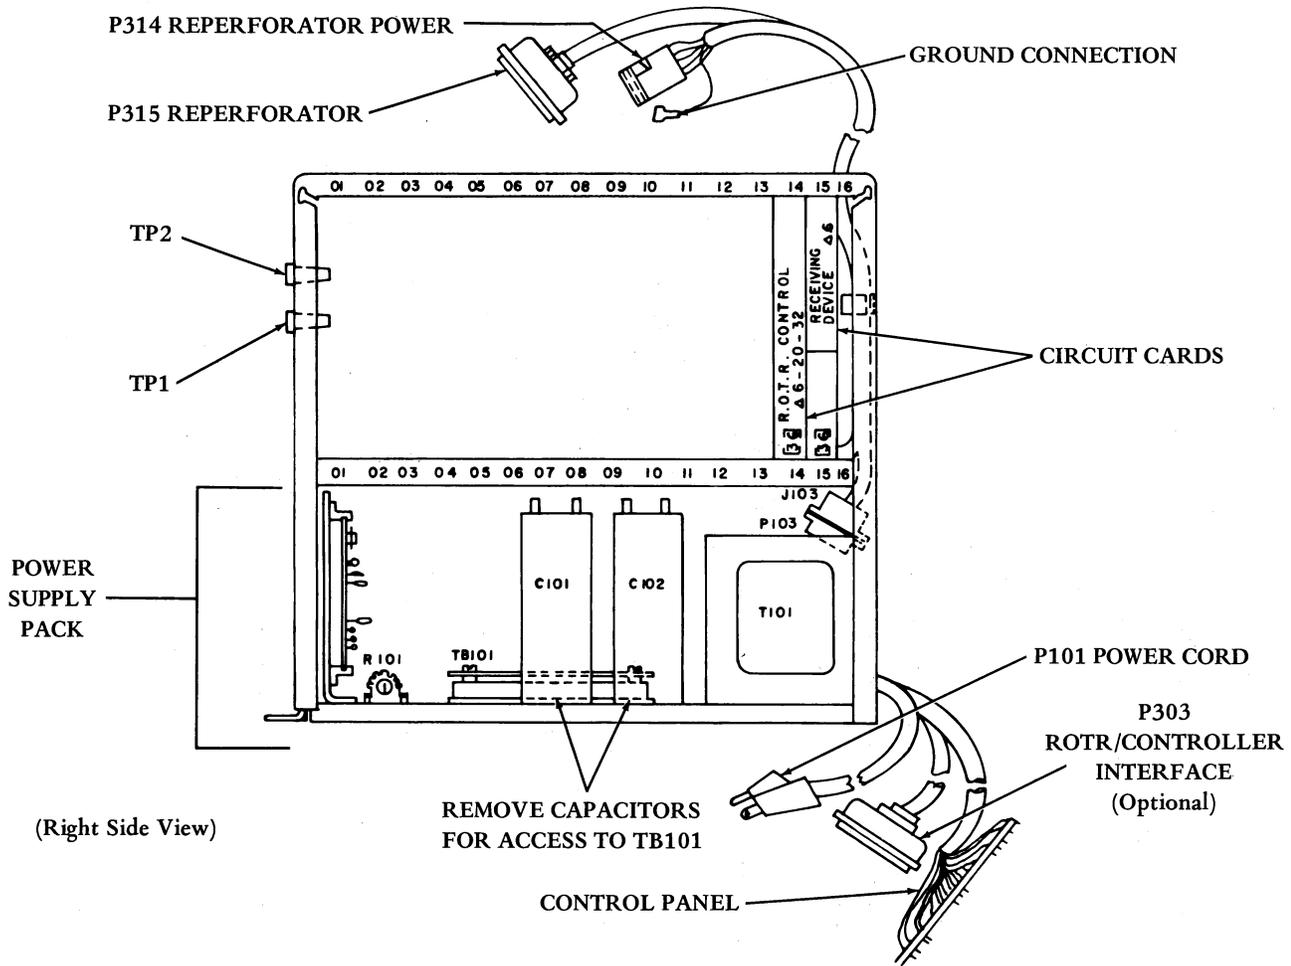

Figure 7 - Electrical Service Unit - Showing Inside Elements
6.02 Both the primary and auxiliary ROTR units use the same two circuit cards (Figure 7). Circuit cards used in the electrical service unit are receiving card and ROTR control card.